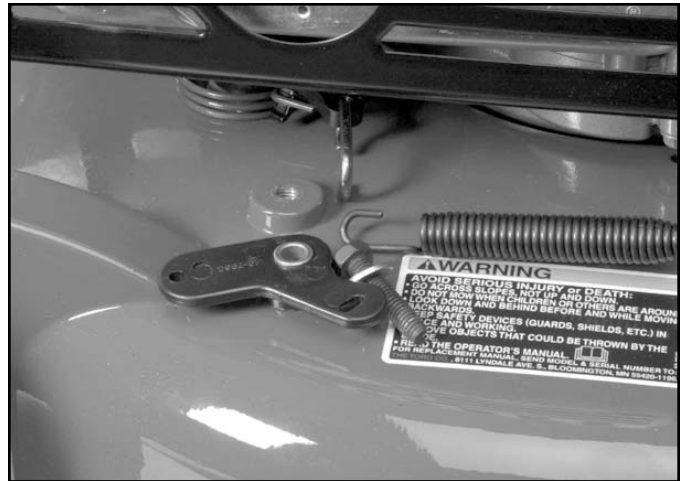

Fig 184
2. On the left side of the mower next to the rear wheel, loosen the clamp that secures the BBC cable to the mower housing. Near the left front wheel, unhook the spring end of the cable from the bellcrank. Remove the screw, bellcrank, sleeve, and unhook the control link from the lever (Fig. 184).